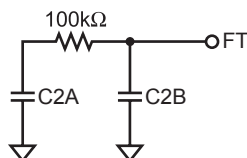

Figure 3—Timeout Adjustment
Secondary Over Current Timeout: When the MP1048 is regulating secondary over current (SI feedback), the source current in the Fault Timer (FT) cap is approximately 65μA. This causes the SI timeout to be about 1/65 of the Open Lamp (LV) timeout. To reduce the SI timeout further, modify the network at the FT pin as shown in Figure 3.